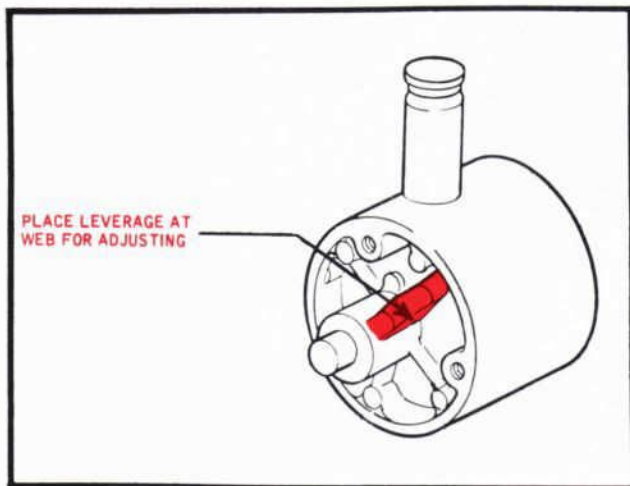

Figure 2—Power Steering Belt Tension Adjustment Lug
**CAUTION:** When adjusting the power steering belt tension, do not pry against the reservoir. Obtaining belt tension in this manner may damage the reservoir resulting in leaks. Instead, pry upwards on the  $\frac{1}{2}$  inch boss (Fig. 2) with an open end wrench.